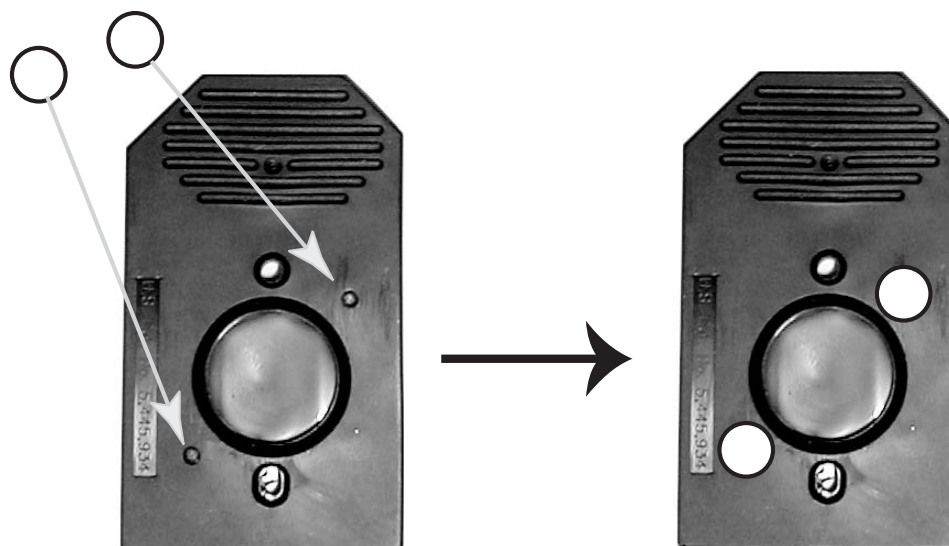

Figure 3.3.1
2. Carefully apply one Tough-Spot to each of the two septa. Press to ensure that the spots remain flat. If the Tough-Spots do not apply smoothly; that is, if you observe bumps, bubbles, tears or curled edges, do not attempt to smooth out the spot. Remove the spot and apply a new spot. See Figure 3.3.1.